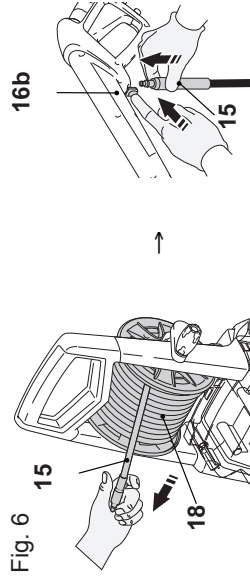

Fig. 6
1. Unroll completely the high pressure hose (15) from the hose reel (18) by pulling it.
2. Push the latch (16b) on the spray gun (16) to open the connecting port and insert the connector of the high pressure hose (15) (Fig. 6).
3. Release the latch (16b) to lock the hose (15) in place. Check the connection by pulling on the hose. It should not pull out.